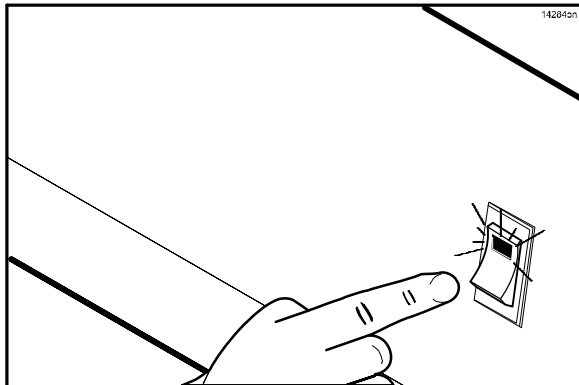

Figure 16
2. Place the fan interlock switch in the ON position. The controller will display the message “OFF”. (See Figure 16.)